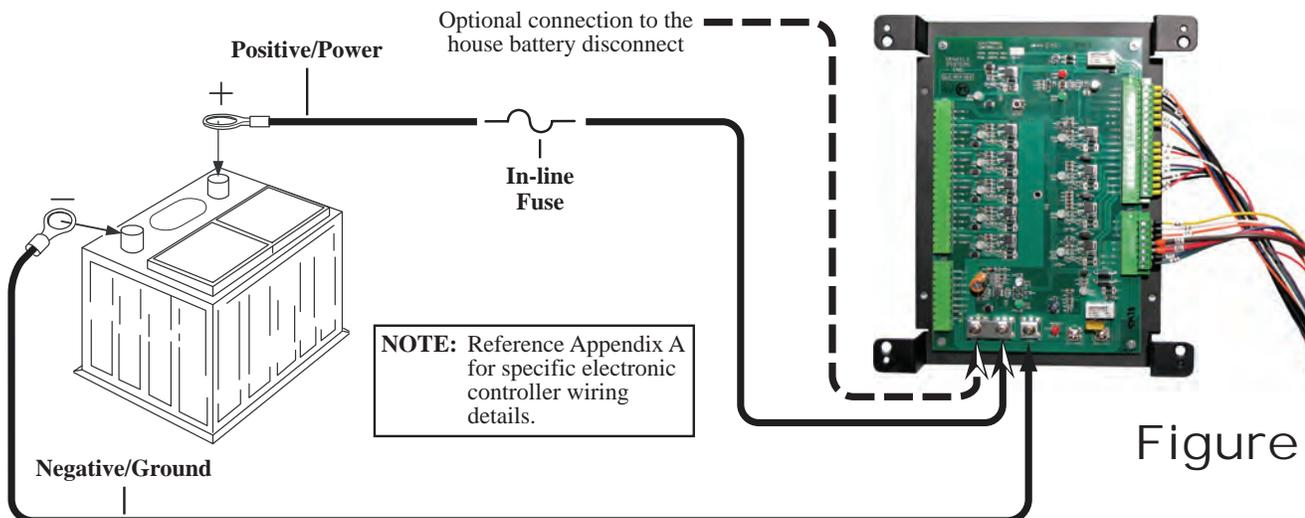

Figure 45
Be sure to protect against accidental shorting (i.e., chassis shorting) by incorporating a 30-Amp rated in-line fuse into the power wire at the battery location. Reference Figure 45.
2. Run and connect two wires — one red (+) wire and one black (-) wire (power and ground), from the vehicle's battery to the Aqua-Hot's electronic controller. Reference Appendix A and Figure 45.